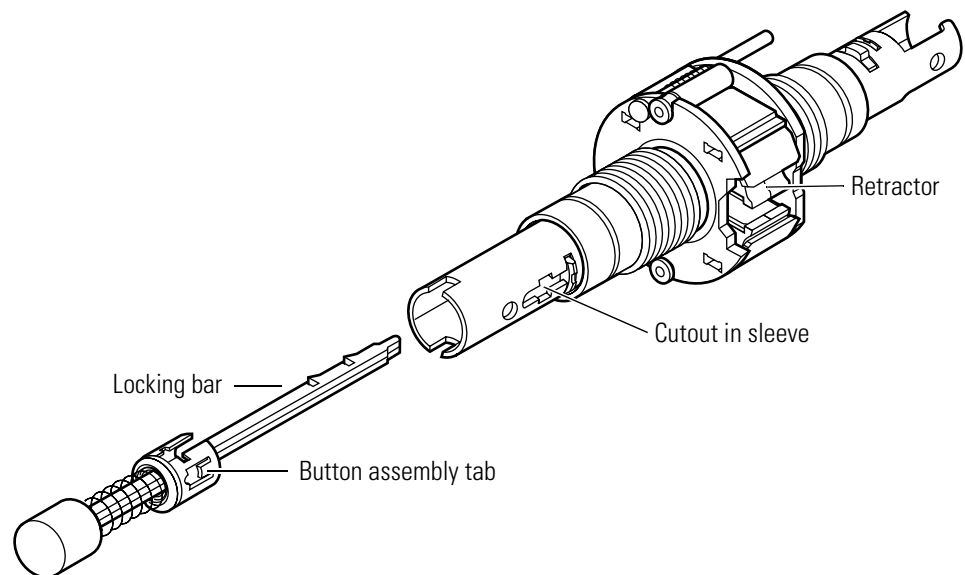

Figure 3.13 Inserting the button assembly into the sleeve
1. Insert the new button assembly into the sleeve, as shown in Figure 3.13, until the tab lines up with the cutout in the sleeve. It may be necessary to slightly press in the retractor with your thumb so that the locking bar can properly align itself through the chassis and into the key release cam assembly.